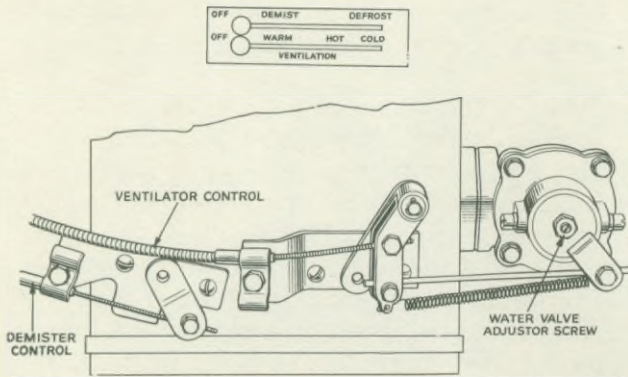

Fig. 21. Showing Air and Demister valves closed and water valve fully open
- (a) Move control lever for ventilating equipment (the bottom lever) to the "off" position and thread the cable through the two trunnions with the air valve lever (see Fig. 21) in its extreme forward position. Clamp the abutment for the outer cable with its bracket and then tighten securing screw down to the end of the cable, maintaining the control lever in the "off" position and the lever on the Heater Unit in its most forward position.
- (i) Move Demister Control Lever to "OFF" position on control quadrant—the demist valve lever on the heater unit should now be at its extreme forward position and no air should pass through the windscreen nozzles with the blower running (see Fig. 21).